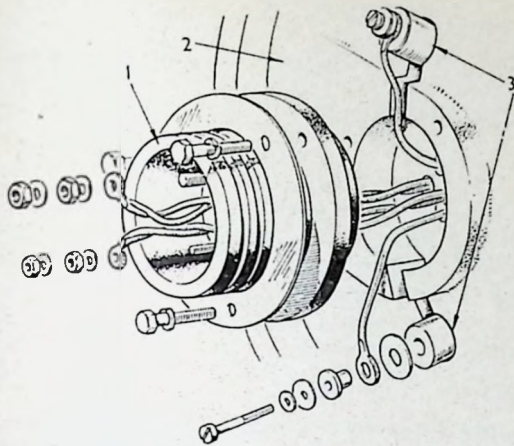

FIG. 30.—Removing stator connections. Identification of wires.
If the tachometer reading is below 1600* r.p.m. a trimming resistor should be fitted in the lower position shown in Fig. 30. Remove the screws securing the earth leads. Connect the lead fitted with a red sleeve to the higher connection using the original screw. Connect the lead, fitted with a black sleeve, and a trimming resistor to the lower connection as shown using a longer screw provided with the resistor.
If the duration of the heavy discharge is less than 1.4 seconds a trimming resistor should be fitted in the upper position shown in Fig. 30. The earth lead fitted with a red sleeve and the trimming resistor should be fitted as shown, using the longer screw provided with the resistor.
- Disconnect the stator leads (Fig. 30) from terminal block (1) and stator body (2) (or resistors (3) if fitted).
leads as shown in Fig. 30 (i.e., thick WHITE lead and one thin white lead to larger terminal (DIRECT coupling); YELLOW lead and a thin white lead to smaller terminal (INDIRECT coupling); either earth lead RED or BLACK to each earth point on stator body).